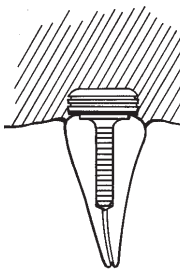

Fig. 12
3. Take an impression using a firm body impression material, exercising caution not to compress the soft tissue. (Fig. 12) When the impression is withdrawn, the Locator Denture Cap Processing Male Assembly will remain on the cemented females.